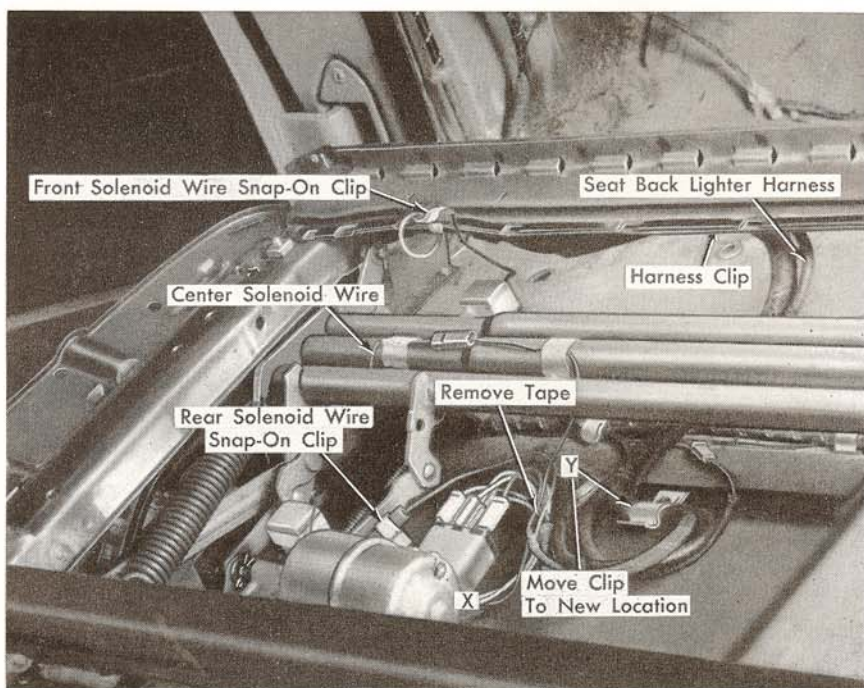

Fig. 2
2. Check to see that the rear solenoid connector is installed under snap-on clip, as shown in Fig. 2.
3. Where present, remove snap-on clip securing front solenoid wire to adjuster linkage. Tape solenoid wire and lead wire to the center torque tube, as in Fig. 2.
4. The location of the wire harness clips on the floor pan should be checked. If clips are present at locations "X" and "Y", as in Fig. 2, remove clip at location "X" and move clip at location "Y" to new position, shown in Fig. 2. This new location should position the clip away from the front of the actuator motor, while keeping it in the area between the front and rear floor carpets.
9. Connect harness to lead wires. Install front solenoid wire connector and snap-on clip to inner flange of seat bottom frame as illustrated in Fig. 2.